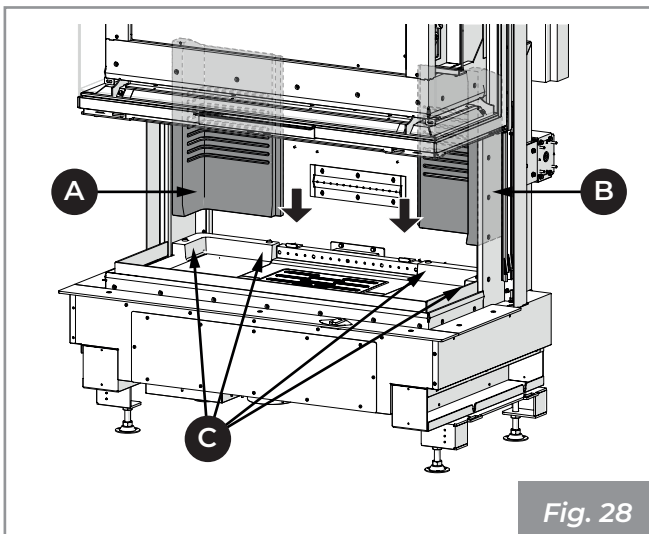

Fig. 28
- 3) Position the O-RING (3) by inserting it into the appropriate support.
- 4) Position the panels (3), resting them on the dedicated supports.
- 5) Rest the side refractory back panels (**A**, **B**) against the wall of the Ecomonoblocco and allow them to gently slide into position, centring them with the protuberances (**C**) in the refractory base (**Fig. 28**).